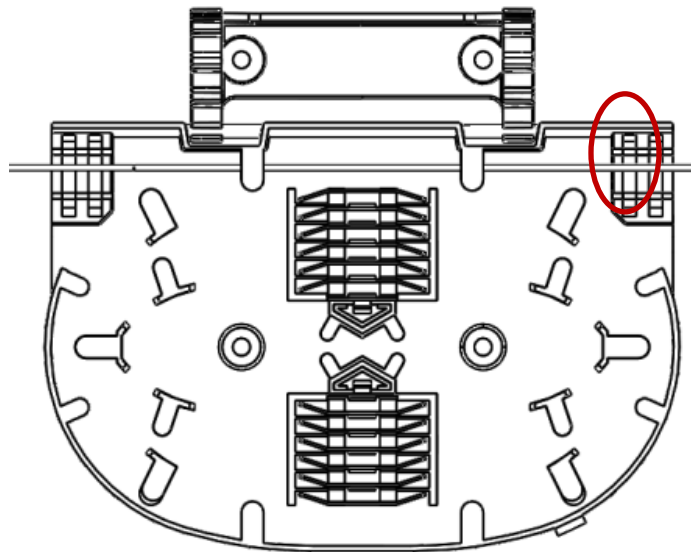

Fig. 18
3.6.4. Place the fiber unit into the desired position for installation. Place a mark where to prep the tube/jacket of the cable. (Fig. 18)